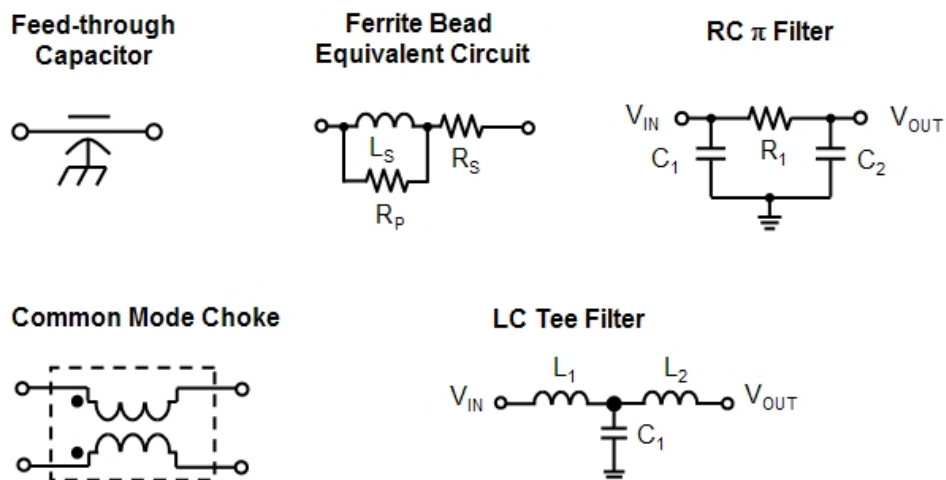

Figure 5. Examples of EMI Filter Devices
Figure 5 provides examples of several common TVS filter device options. The filter device options include feed-through capacitors, filter connectors, ferrite beads, resistor-capacitor (RC) filters, inductor-capacitor (LC) filters and common mode chokes. EMI filters are available in different circuit options, including  $\pi$  and tee filter configurations that offer the advantage of attenuating a noise signal that is both entering and exiting the filter network. For example, in the RC filter shown in Figure 5,  $R_1$  and  $C_2$  form a filter that attenuates the high frequency signals entering the network via the cable, while  $R_1$  and  $C_1$  attenuates the high frequency noise that is exiting the network. In other words,  $R_1$  and  $C_2$  reduce the susceptibility to RF and conducted noise entering the PCB, while  $R_1$  and  $C_1$  reduce the emissions leaving the PCB.